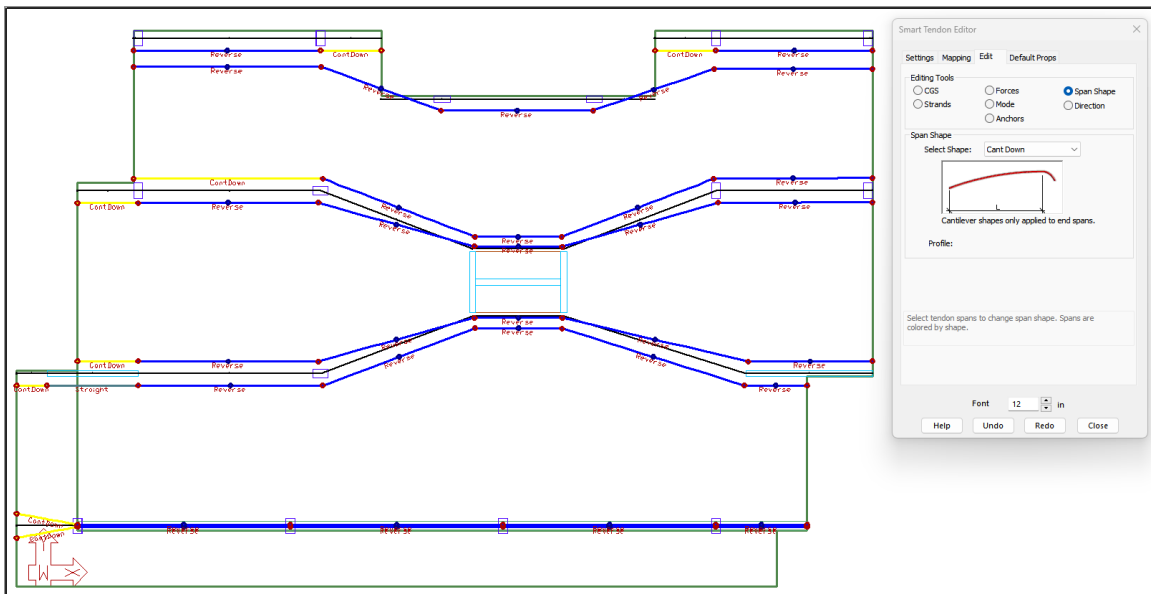

FIGURE 9-59
- Draw a construction line through the smaller span of the top two tendons to change the span shape from *Reverse Parabola* to *Cantilever Down*. Once this is done, your model should look like **FIGURE 9-59**.